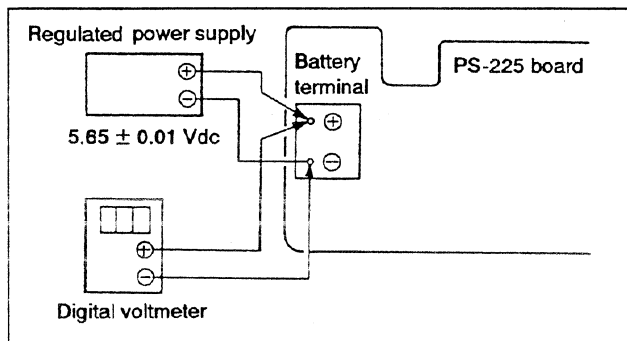

Fig. 9-3.
- 1) Connect a regulated power supply and digital voltmeter as shown in Fig. 9-3.
- 2) Connect Pin ① (TEST B) and Pin ② (GND) of CN508 on the VK-3 board with a jumper wire. (Test 2 mode)